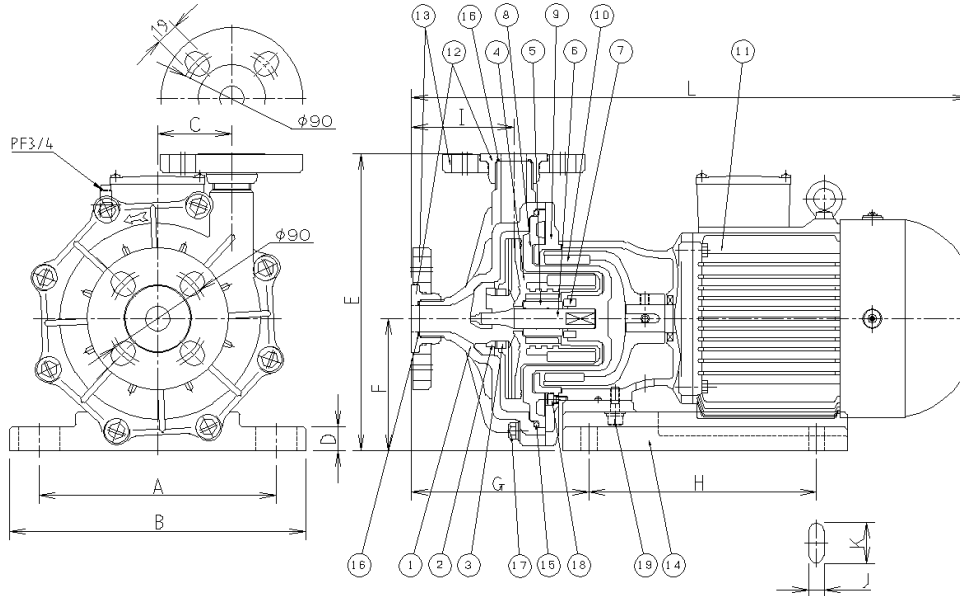

Fig. 1
1. See Fig. 1 & 2, page 6 & 7 for finding the item No.
■ 400GS(F) Series